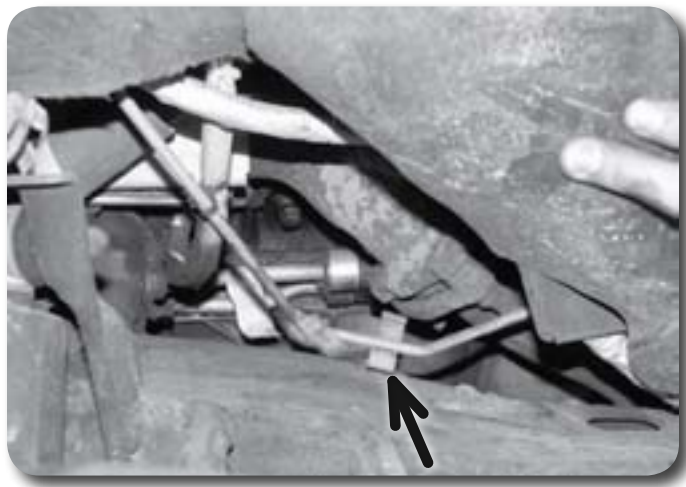

Figure 21
25. Remove the brake line from the plastic retaining clip on the driver's side frame rail Figure 21.